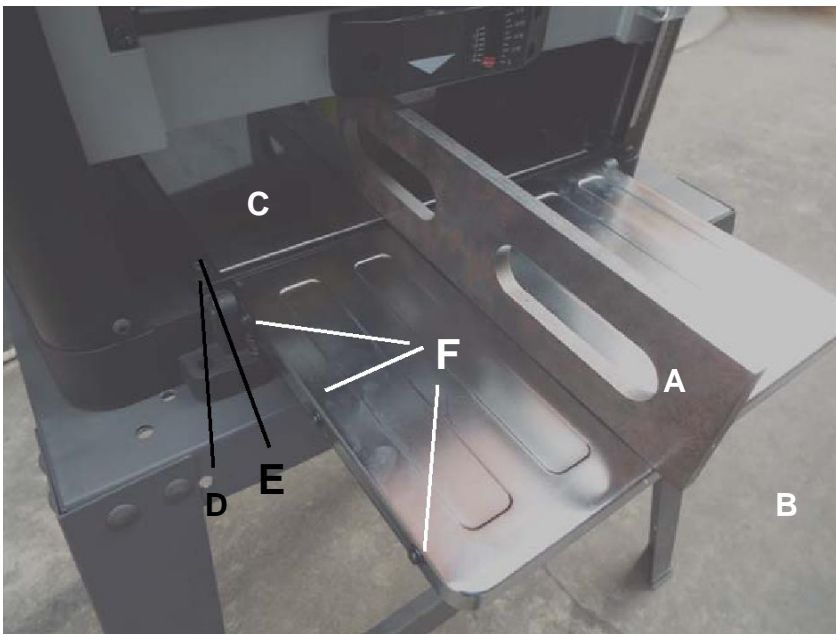

FIG 4
1. Lay a straight edge (A) on the planer table (C) with one end of the straight edge over the infeed table (B). SEE FIG 4.
3. If an adjustment is necessary, raise table, loosen lock nuts (D) and adjust Hex Head Screws (E) on each side of the table until the infeed table is level with the planer table. This will adjust the outer edge of the table. If necessary, loosen the three screws of one side of infeed table (F), after adjusting, then retighten the screws back. Adjust another side of infeed table in the same manner.